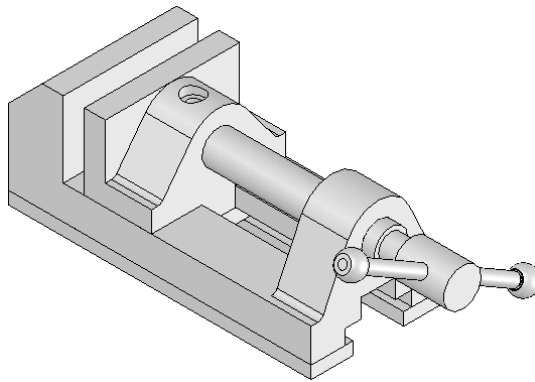

Figure 12-73 Assembly after assembling the Vice Body, Vice Jaw, Jaw Screw, Screw Bar, Clamping Plate, Base Plate, and Bar Globes
6. Similarly, assemble the Screw Bar, Support Plates, and Bar Globes. The assembly, after assembling all these components, is shown in Figure 12-73.